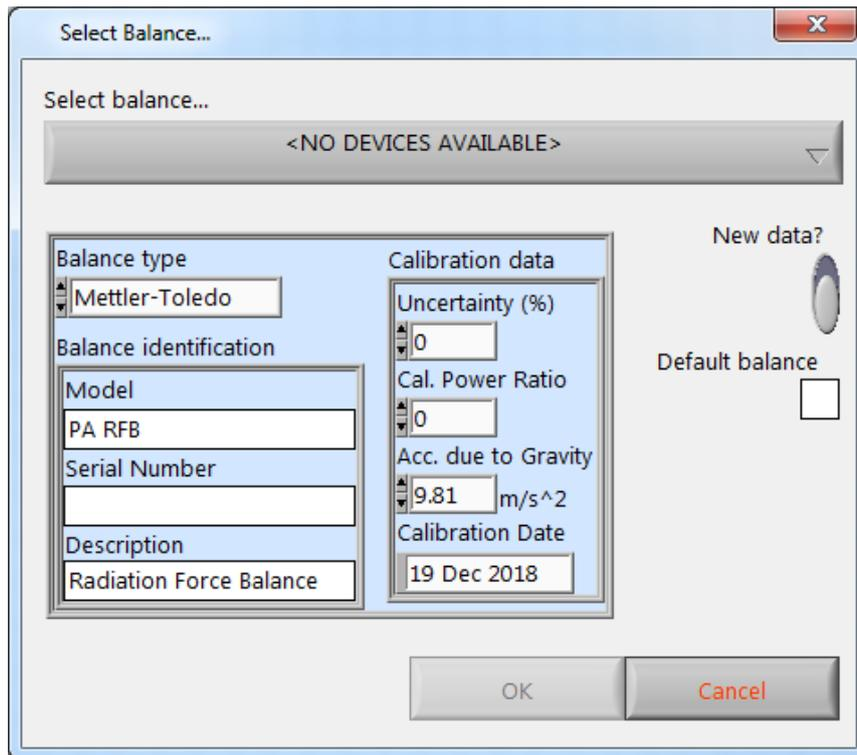

Figure 5 – Select balance configuration dialog
However local values of g may vary, and the correct value should be input to the dialog shown in Figure 5. Similarly, the correct value for the water temperature should be entered into the front panel of the RFB software each time a measurement is made.
The “**Select Balance ...**” dialog box (see Figure 5) is displayed every time the RFB2 application is run and allows the user to specify a balance configuration to use for this instance of the application.
- 2) If the RFB has been calibrated by an external test laboratory (e.g. NPL London) the calibration power ratio and the uncertainty of that measurement should be entered into the “Calibration data” section of the Figure 5 (see discussion in the Calibration section of this document)
1. Run the “RFB 2” program and select the RFB configuration from the dialog box (Figure 5).